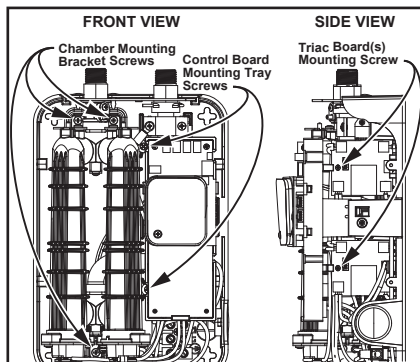

Figure 42 - Mounting screw locations.
Locate and remove all the mounting screws (7 total) with a Phillips screwdriver. See Figure 42. **IMPORTANT:** In accordance with UL 499, DO NOT remove the lower mounting bracket screw securing the ground wire.
**6** Secure the chamber in place by reinstalling the three chamber mounting bracket screws. Hand tighten the Phillips screws in place, DO NOT over tighten. See Figure 42, page 25.
**8** Reinstall the control board assembly into place. Reusing the screws previously removed, secure the control board into place. Hand tighten the screws in place, DO NOT over tighten. See Figure 42, page 25.